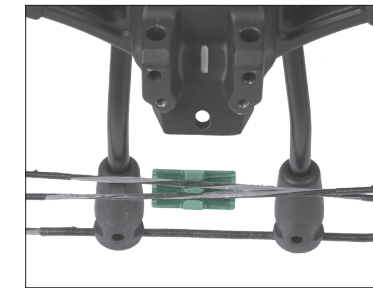

FIGURE 3
- 1a** Attach the cable slide (M) to the cables so that the cables cross on the left side of the riser. (Fig. 3)